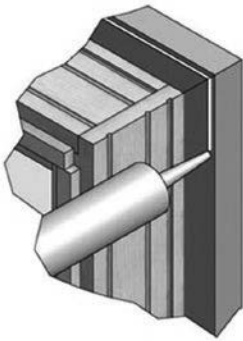

FIG. 10
- F) Apply sealant: On the backside of the head and side brickmould, run a 1/4" continuous bead of silicone along the entire length 1/4" from the outside edge of the brickmould. (Fig. 10 & 11)